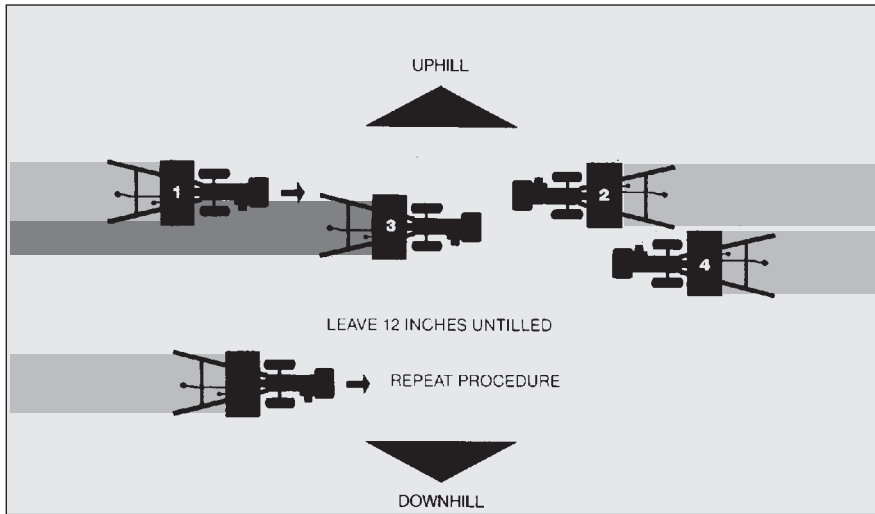

Figure 4-18
- To create a terrace, start at the top of the slope and work down. Go back and forth across the first row as shown in Figure 4-18.